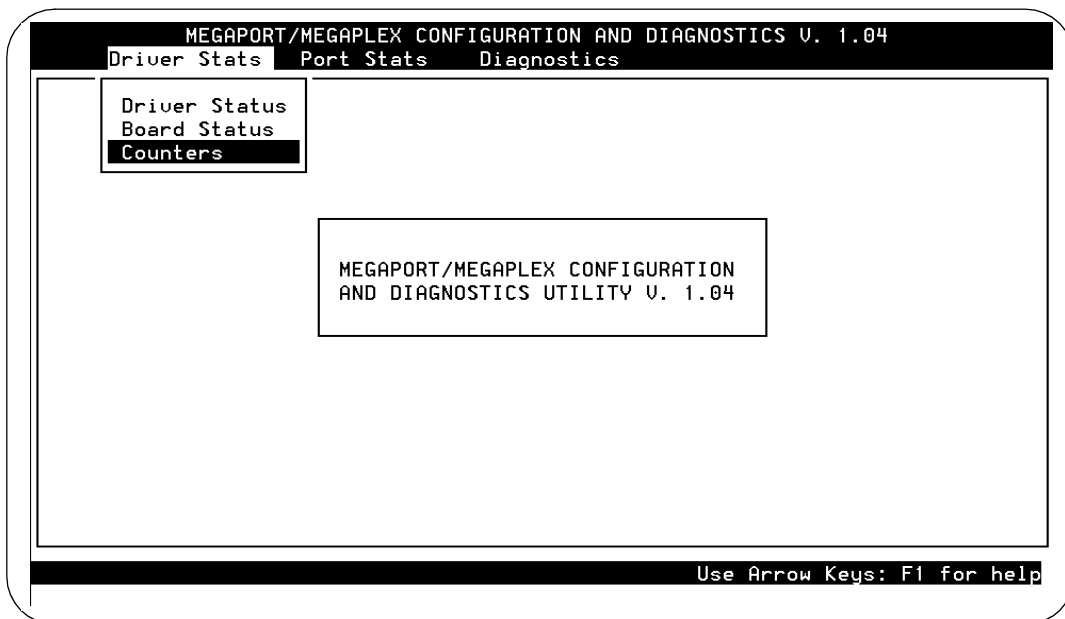

Figure 2-25. Megaport and Megaplex Configuration and Diagnostics Screen
The system displays the Megaport and Megaplex Configuration and Diagnostics screen (Figure 2-25). This screen contains a menu bar with the options Driver Stats, Port Stats, and Diagnostics.
- 1. Starting at the Megaport and Megaplex Configuration and Diagnostics screen (Figure 2-25), select
1. Starting at the Megaport and Megaplex Configuration and Diagnostics screen (Figure 2-25), select
There are two options on the Diagnostics portion of the Megaport and Megaplex Configuration and Diagnostics screen (Figure 2-25):